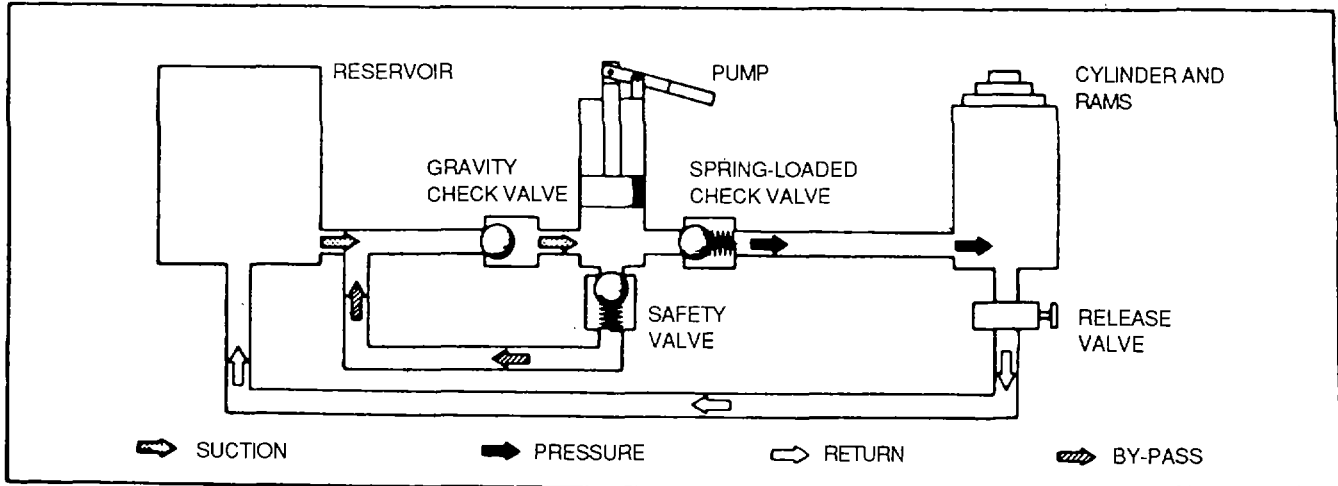

Figure 9-6. Jack Hydraulic Schematic Diagram
(2) *Principles of operation.* A generalized jack hydraulic schematic diagram is shown in figure 9-6. The pump handle is moved up and down to raise the cylinder and rams. On the up stroke of the pump handle, the pump piston draws hydraulic fluid from the reservoir. On the down stroke, the piston pushes the hydraulic fluid under pressure through the spring-loaded check valve